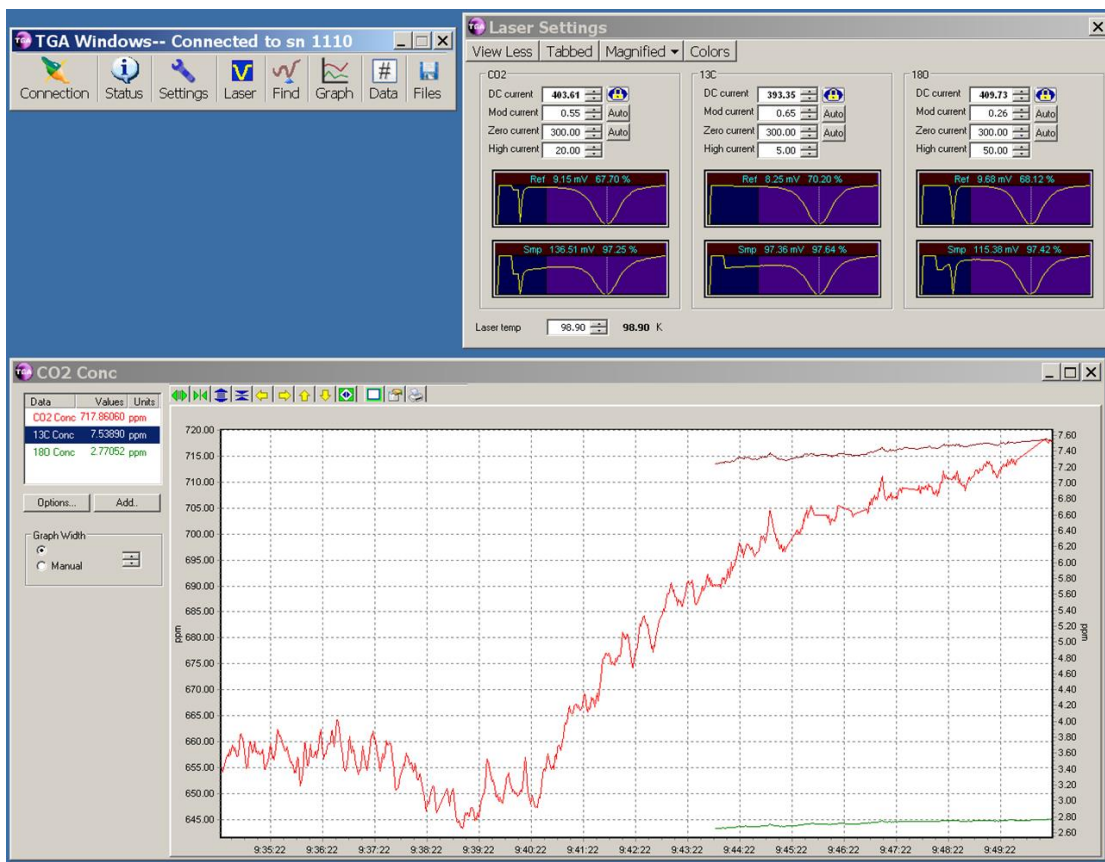

FIGURE 4-1. Screen of TGA Windows software
The fourth generation software, *TGA TEC*, is a minor update to the *TGA Windows* software that is compatible with the thermoelectrically (TE) cooled lasers used in the TGA200A. *TGA Windows* and *TGA TEC* are not mutually compatible. *TGA Windows* is used only with LN₂-cooled lasers and *TGA TEC* is used only for TE-cooled lasers. A representative screen of the *TGA Windows* software is shown in FIGURE 4-1.